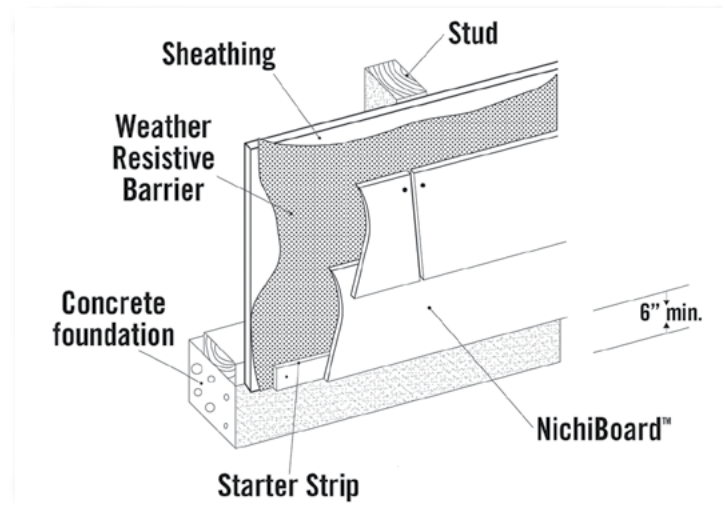

Fig. 1.2
- Maintain a minimum clearance of 6" above finished grade or in accordance with local codes if greater than 6" clearance is required. (Fig. 1.2)